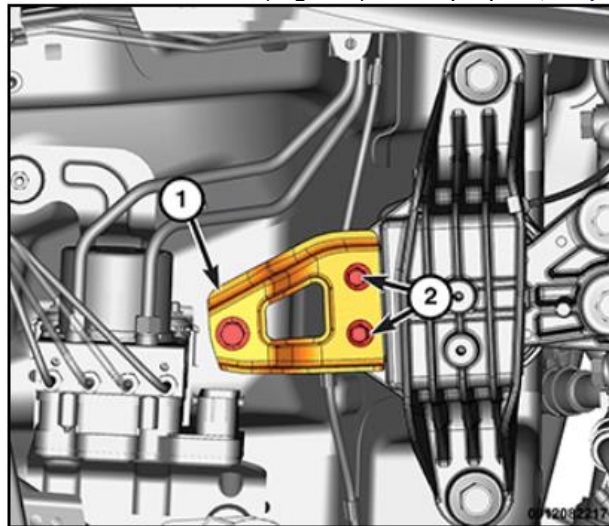

Fig 9. Right Mount To Strut Bracket
1. Tighten the right engine mount to strut tower bolt (Fig 9. 1) to the proper (Torque Specifications), if equipped.